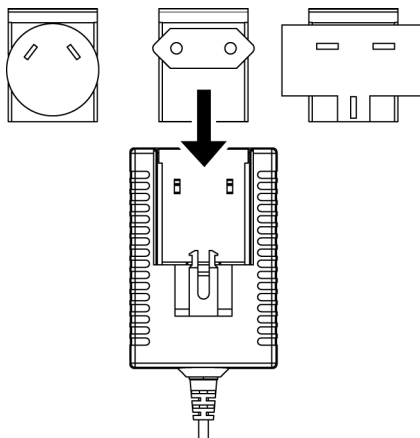

Fig. 6 PS4 Universal AC/DC Power Supply
1. Squeeze both sides of the PS4 latch lock (see Fig. 6).